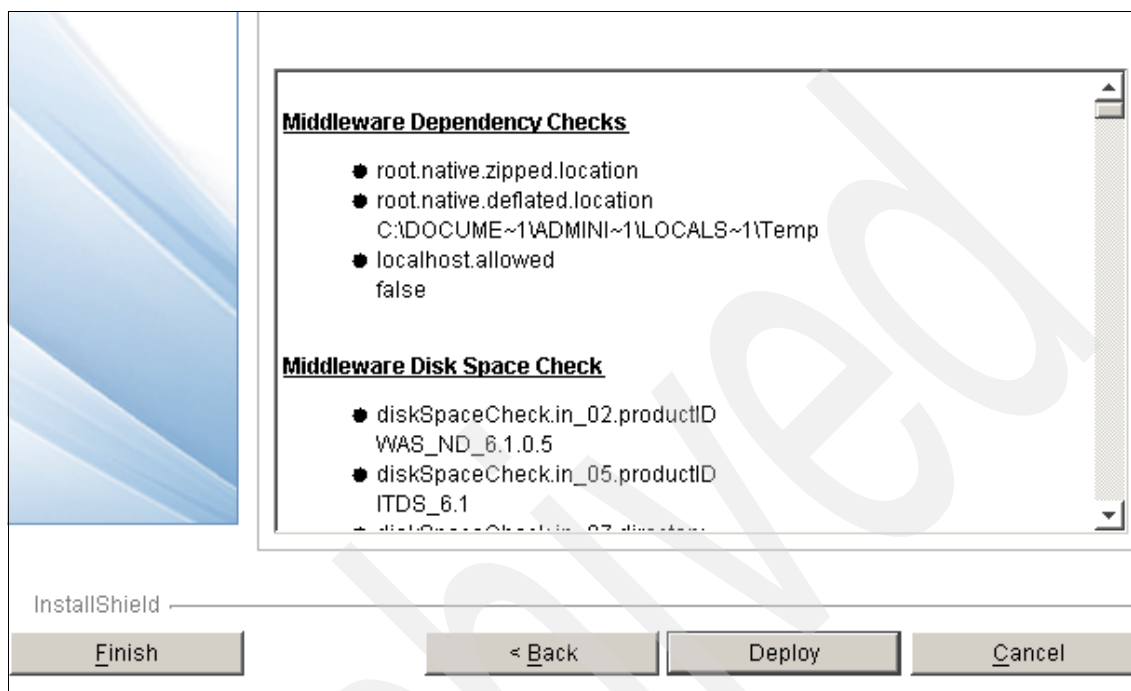

Figure 5-7 Middleware deployment plan
10. From the Deployment Plan and Parameter Configuration summary panel (see Figure 5-7), review the contents of the summary, and then click **Deploy** to initiate the installation and configuration of the middleware you selected.